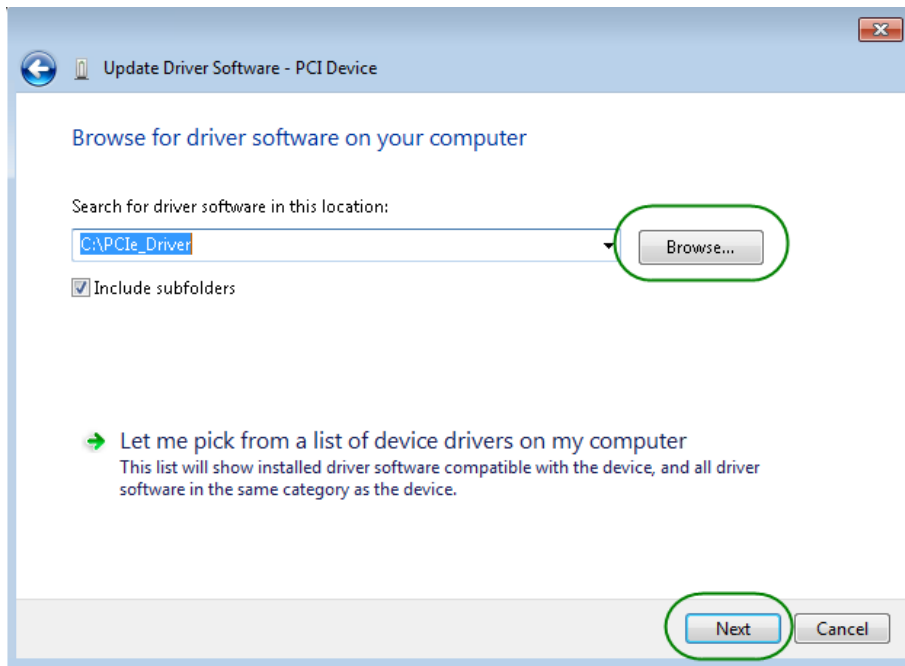

Figure 7-5 Browse for driver software on your computer
- In the **Browse for driver software on your computer** dialog, click the **Browse** button to specify the folder where altera_pcie_din_driver.inf is located, as shown in **Figure 7-5**. Click the **Next** button.